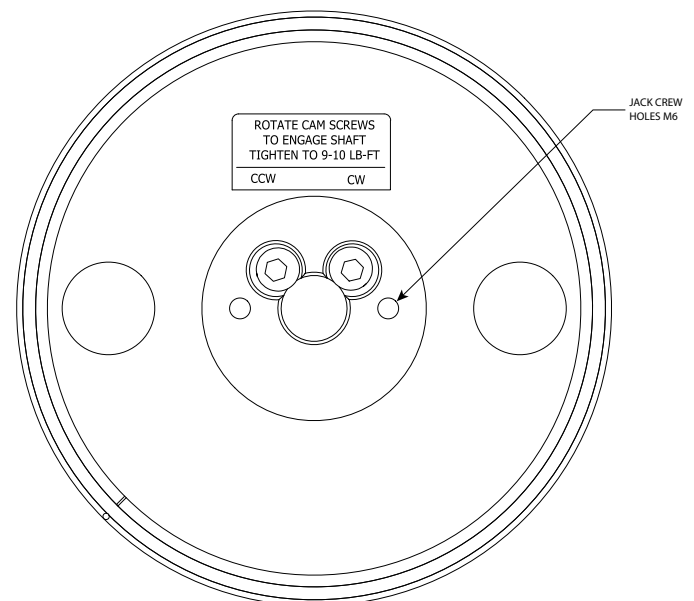

Figure 2.2
Disengage the (2) cam screws by turning the left screw clockwise and the right screw counterclockwise less than 1 full turn. The cam heads will visibly move away from the shaft. Remove the rotor by hand by pulling it away from the motor. If the rotor will not move, do NOT use a gear puller, and do not use a heat gun. Instead, insert two M6 screws, >25mm length into the Jack Screw Holes shown in Fig 2.2. Alternately tighten the screws to push the rotor away from the motor and remove it.